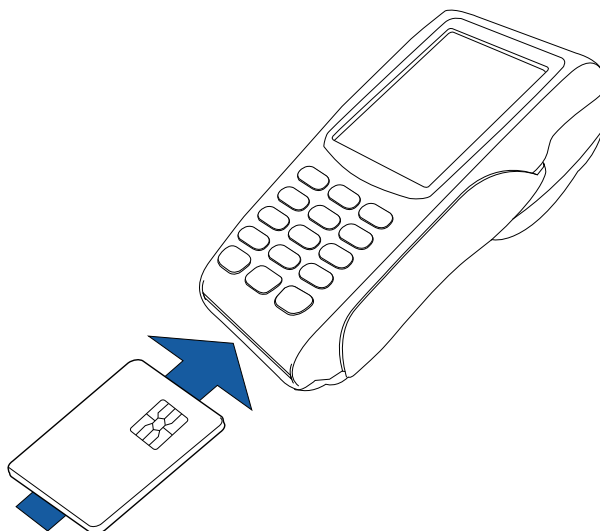

Figure 35 Inserting a Smart Card
- 1 Position a smart card with the contacts facing upward (see Figure 35).